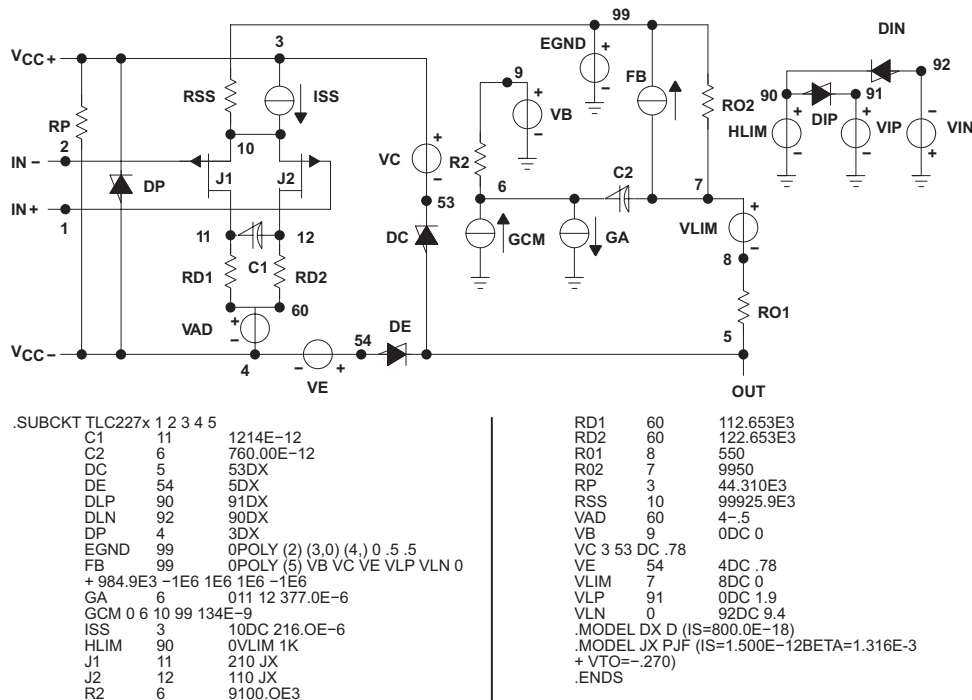

Figure 59. Boyle Macromodel and Subcircuit
Macromodel information provided was derived using MicroSim Parts™, the model generation software used with MicroSim PSpice™. The Boyle macromodel (1) and subcircuit in Figure 59 were generated using the TLC227x typical electrical and operating characteristics at  $T_A = 25^\circ\text{C}$ . Using this information, output simulations of the following key parameters can be generated to a tolerance of 20% (in most cases):